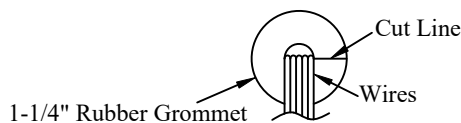

Figure 7: Wire Grommet
2. If the front access holes are 1 $\frac{1}{4}$ " holes, **Cut** the 1 $\frac{1}{4}$ " wire grommets from the inner hole out (Figure 7).
3. **Place** the 1 $\frac{1}{4}$ " wire grommets or 1 $\frac{1}{2}$ " plastic bushings around wires (Figure 7).